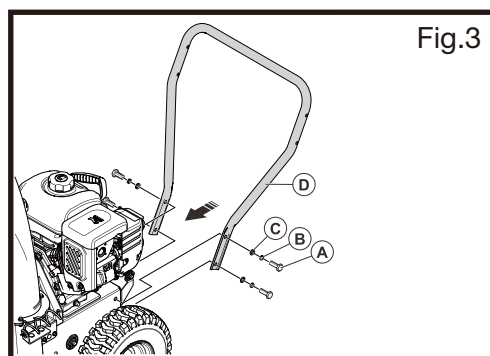

Fig.3
1. Remove the four M8×25 flange bolts(A), spring spacer (B) and flat spacer (C) from the case.
2. Use the four M8×25 flange bolts (A), the four spring spacers (B) and the four flat spacers (C).
3. Install the lower handle (D) into the two holes on each side of the case. See Fig.3.